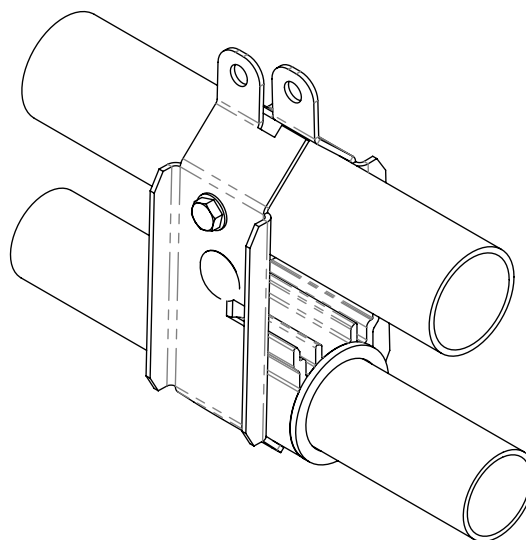

Figure 6: Isometric View of Assembly
1. Align metal clamps over the center of the water line coupler as shown in figure 6 to the right.
3. Insert (2) 690112 tek screws into metal pipe.